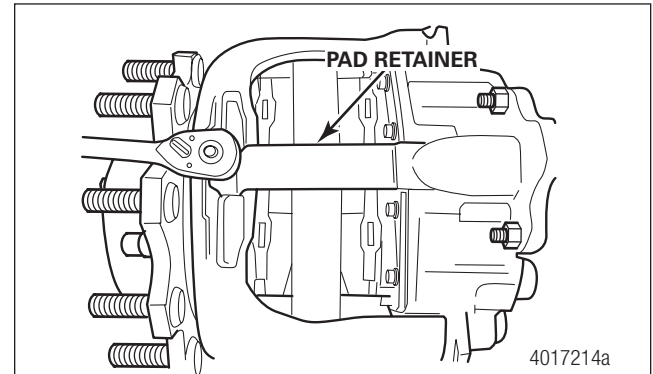

Figure 6.6 Pad Retainer
2. Use a 17 mm wrench to remove the pad retainer bolt. Remove the pad retainer. Figure 6.6.